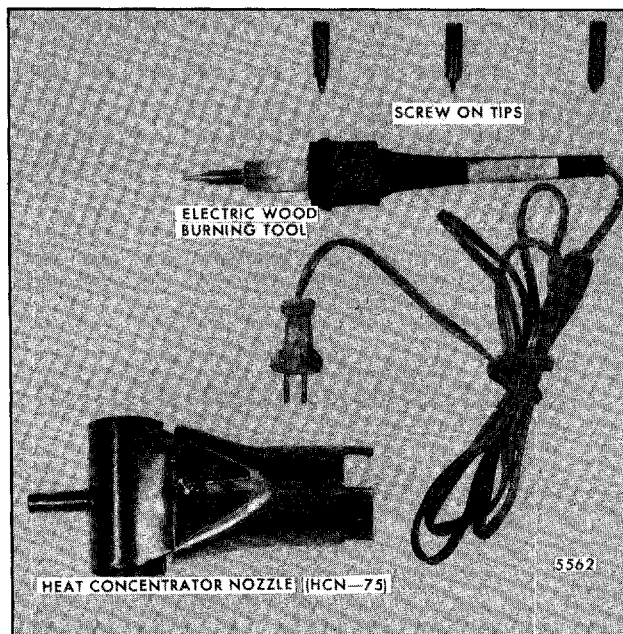

Fig. 8-52-Wood Burning Tool and Heat Concentrator Tool
9. Electric wood burning tool with screw-on tips (or equivalent) - used for smooth cuts, scuffs or gouges (Fig. 8-52).
6. Apply heat to damaged area using a hot air gun with heat control nozzle attached (Fig. 8-52).